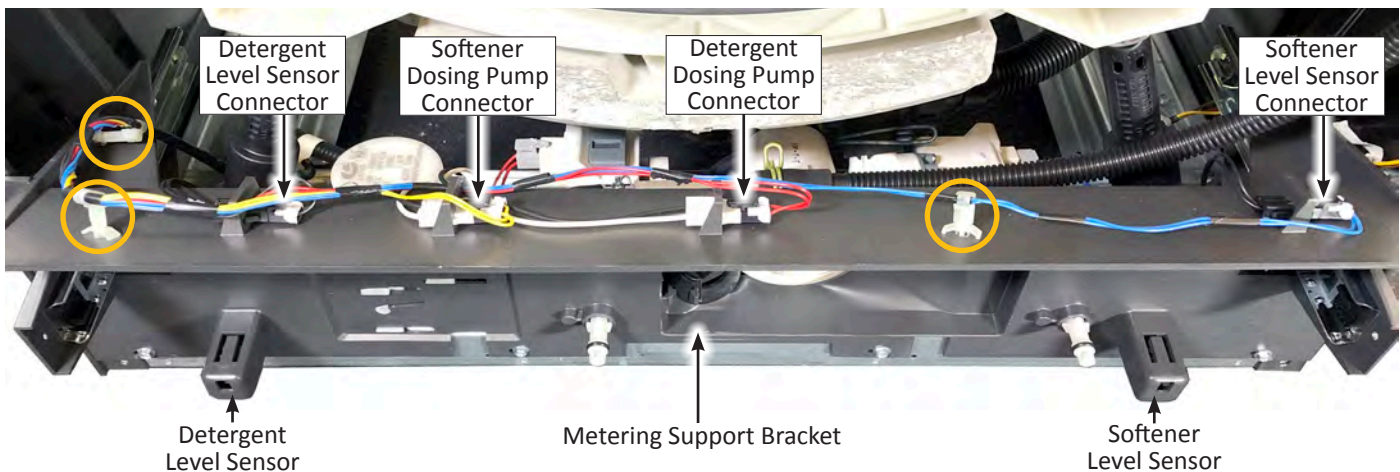

Figure 1 - Bulk Dispense Assembly
9. Unclip the three (3) harness clips attached to the Metering Support Bracket (circled in Figure 1).